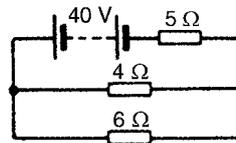

Figure 13.49
- 2 Use Thévenin's theorem to find the current flowing in the 6 Ω resistor shown in Fig. 13.49 and the power dissipated in the 4 Ω resistor. [2.162 A, 42.07 W]